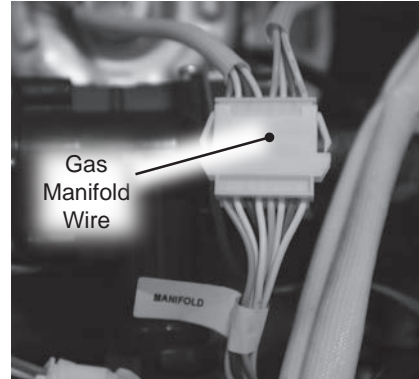

Figure 113 - Disconnecting gas manifold wire
- 12 Locate the gas manifold wire harness and disconnect it. See Figure 113.
- 19 Locate the gas manifold wire harness and connect it. See Figure 113.